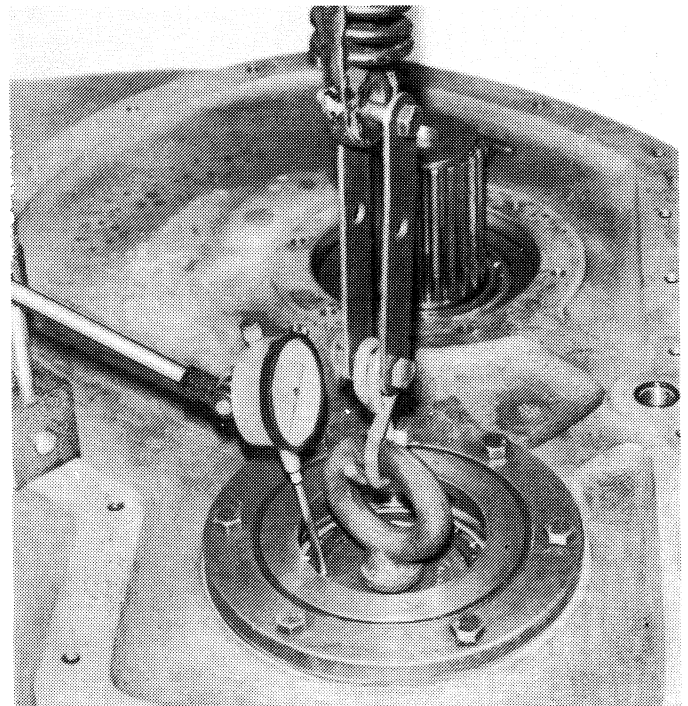

Figure 9-9. Applying Forward Thrust to Reverse Shaft.
i. Remove the thrust and attach a sling, fish scales, and hoist to the eyebolt. Apply 300-500 lb. upward thrust. See Figure 9-9.